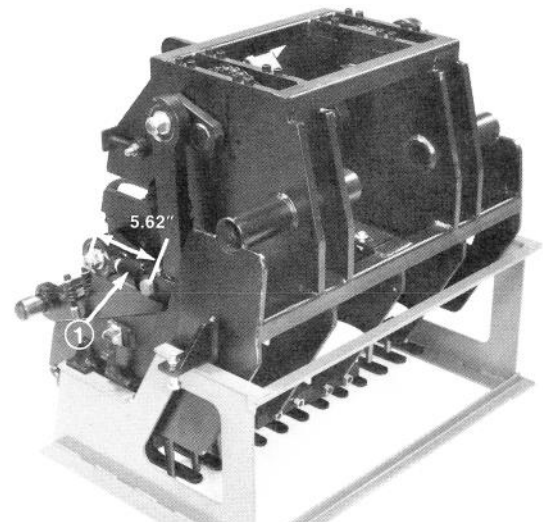

Figure 49
10. Pull traction unit straight away from coring head (Fig. 49).
If coring head damper assemblies are ever removed for servicing, make sure they are installed so distance between center of tine arm shoulder bolt and center of crank shaft is 5.56-5.62 inches (Fig. 49).